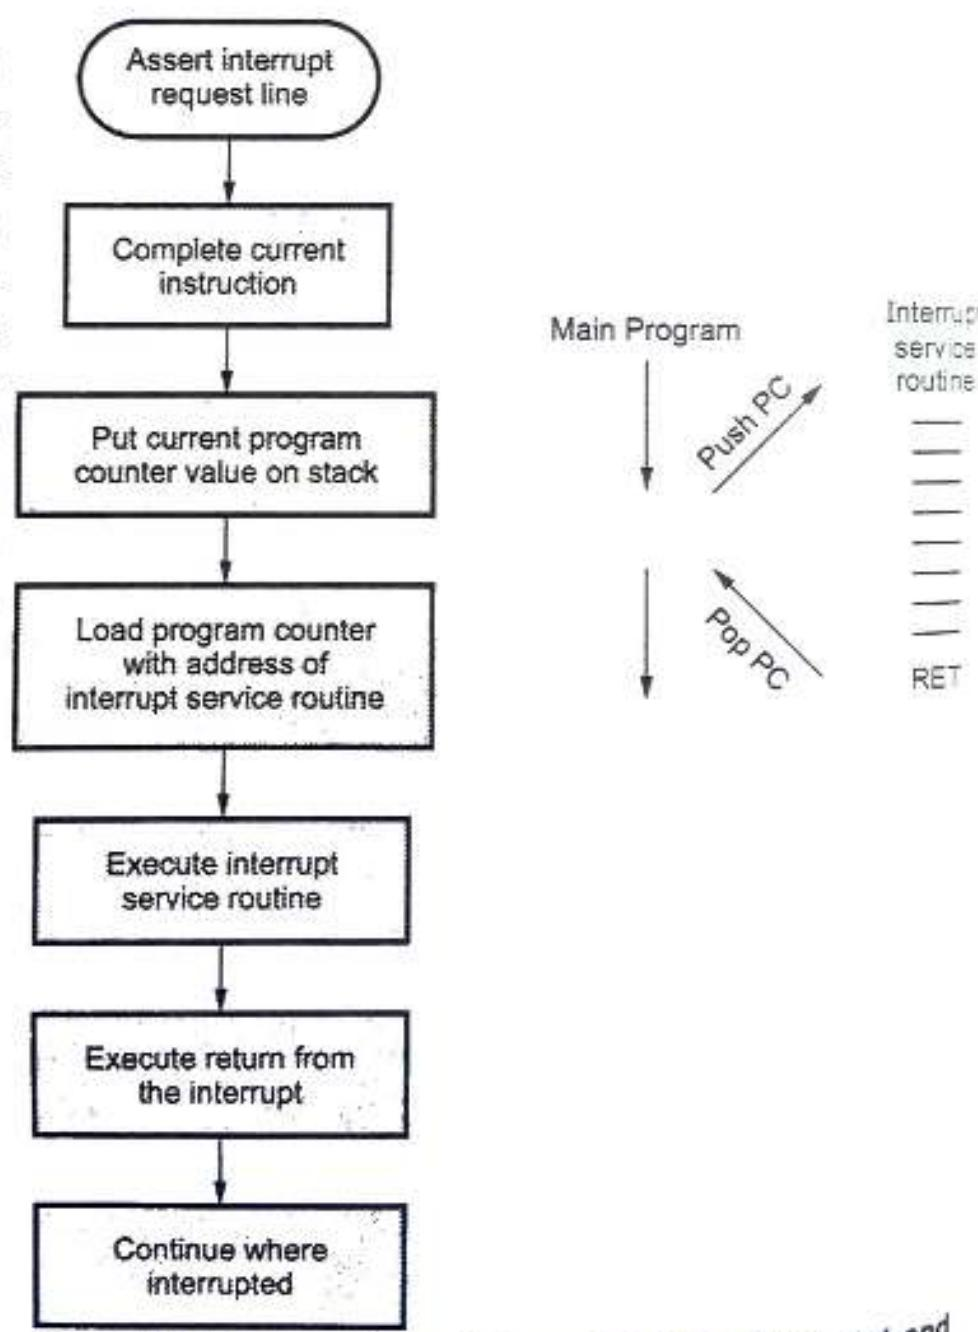

Fig. 1.5.2 Response to an interrupt with the flowchart and diagram
6. After execution of the RET instruction processor gets the old address (the address of the next instruction from where the interrupt service routine was called.) of the program counter from the stack and puts it back into the program counter. This allows the interrupted program to continue executing at the instruction following the one where it was interrupted. Fig. 1.5.2 shows the response to an interrupt with the flowchart and diagram.